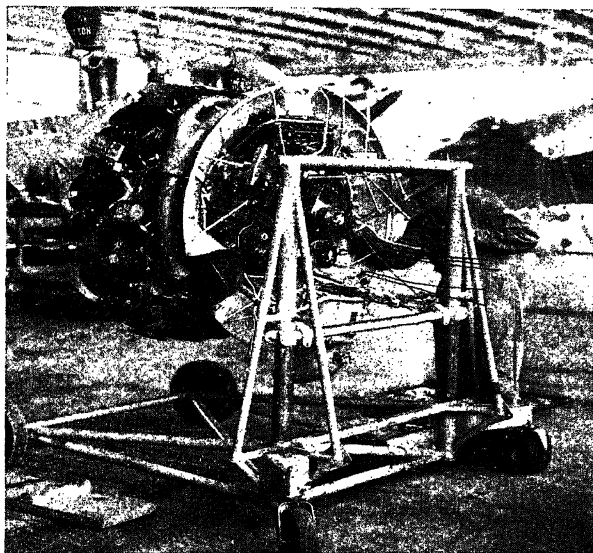

FIG. 25.—Motor repair stand. (Official Photograph, U.S. Army Air Corps.)
**Portable Racks.**—Three other portable racks are seen in Figs. 25 to 27. All are built up by welding steel tubing into proper assemblies to secure
the maximum strength with the minimum weight. These are used at the Fairfield depot of the Army. Figure 25 is a stand on which the engine is mounted to assemble the accessories after the engine itself has been overhauled; it is so open that the men can get at any part of the engine with ease. When completed, the engine can be wheeled to the plane to which it